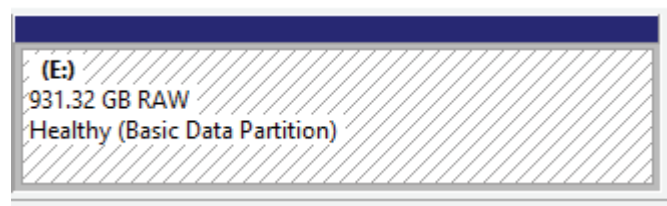

Figure 12
12. When the volume is finished, the partitioned volume should look like this (figure 12)